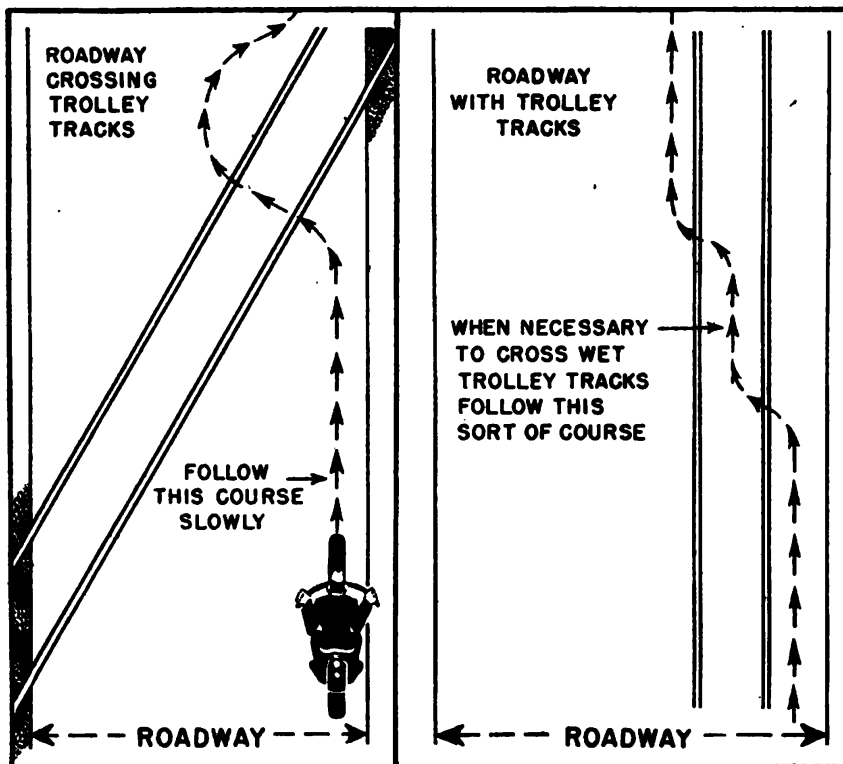

FIGURE 8.—How to cross wet railroad and trolley car tracks.
*d.* Figure 8 illustrates the proper method of crossing wet railroad or trolley car tracks. Study the illustrations and notice the angles at which the tracks should be approached.